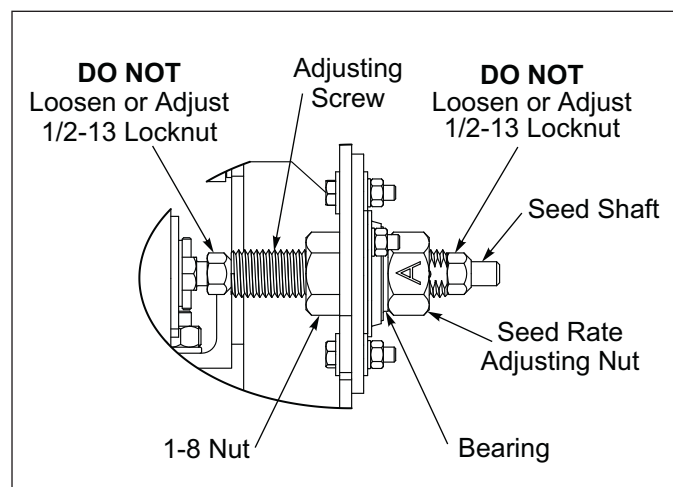

Figure 5-6: Front Seed Box Rate Adjuster
All Seed Meters must be set the same to ensure uniform seeding. To check, set the Seed Rate Adjusting Nut to 0-A. The "A" on the Seed Rate Adjusting Nut is positioned over the "0" (the nut covers half of the "0") and snug against the Bearing. See Figures 5-6 and 5-7.
1. 1/2-13 Locknuts on both ends of the Adjusting Screw are used to adjust all Seed Meters the same amount. See Figures 5-6 and 5-7. To adjust Seed Meters to be closed at "0A", loosen 1/2-13 Locknuts and set Adjusting Screw to "0A". Slide Seed Shaft to close all Seed Meters. Tighten 1/2-13 Locknuts against Adjusting Screw.